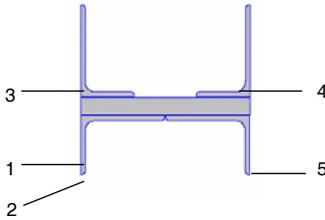

Fig. 62 *Designed section*
A section (Fig. 62) containing a lightweight section 10x100 mm (1) and four angles with unequal flanges 50x32x3 (2–5) is required.